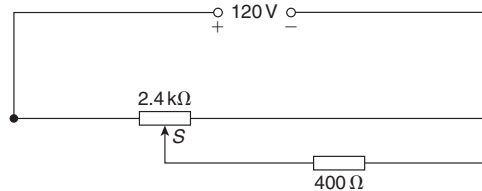

Figure RT2.2
- A mild steel ring of cross-sectional area 4 cm^2 has a radial air gap of 3 mm cut into it. If the mean length of the mild steel path is 300 mm , calculate the magnetomotive force to produce a flux of 0.48 mWb . (Use the B-H curve on page 83) (8)
- In the circuit shown in Fig. RT2.2, the slider S is at the half-way point.